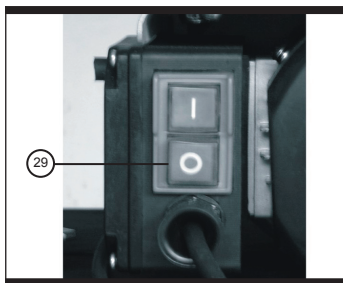

Fig 14
29 "ON/OFF" SWITCH (SEE FIG 14)
ON/OFF OPERATION (See fig14)
6.Activate switch (29) button "0" when you have completed the cutting.(See fig 14)